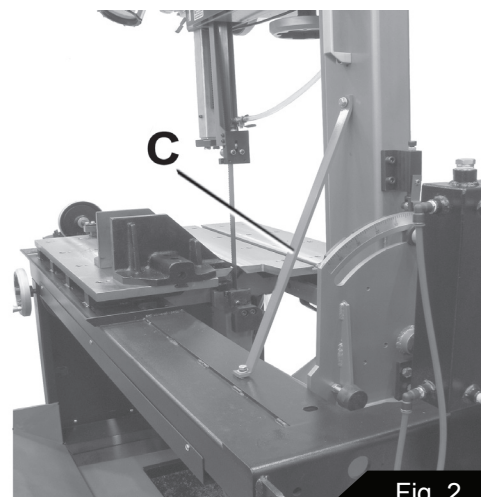

Fig. 2
9. Remove the red shipping bracket (C, Fig. 2).